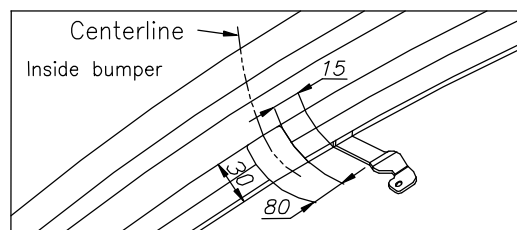

Fig. 2. Bumper cut out
1. Cut out the lower fragment of the bumper, as shown on the fig. 2.
2. Put main bar of the towbar to the car frame in that way so holes (pos. A) be covered with holes in frame and fix using bolts M10x1,25x30 mm (pos. 12) - fix loosely.